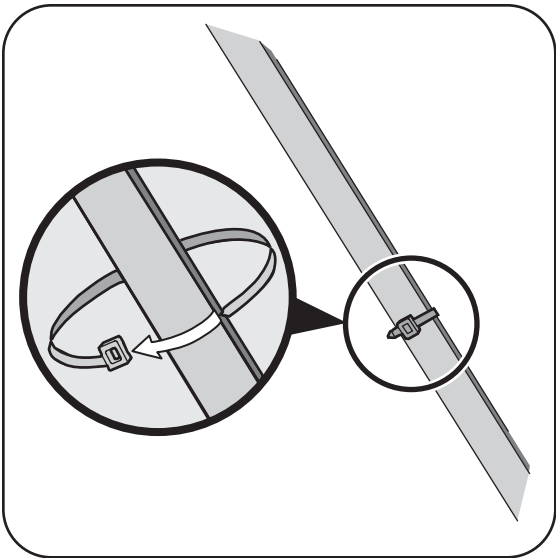

Figure 3-8: Secure cable to lower handle using a cable tie.
1. Secure the cable to the lower left handle near the base of the unit with a cable tie, Figure 3-8. Trim off any excess.